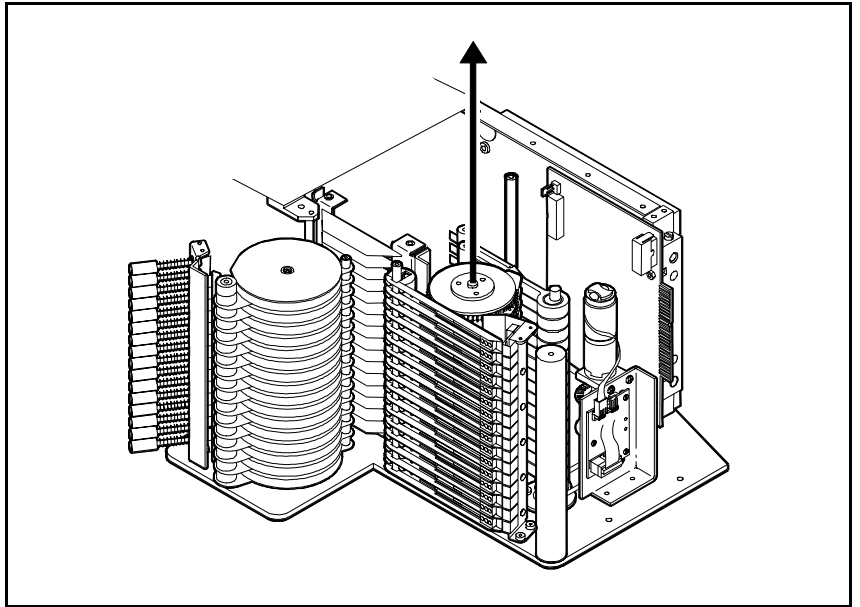

Figure 8. Removing feeder wheels
19. Lift the entire feeder wheel pack straight up (see the arrow in Figure 8).